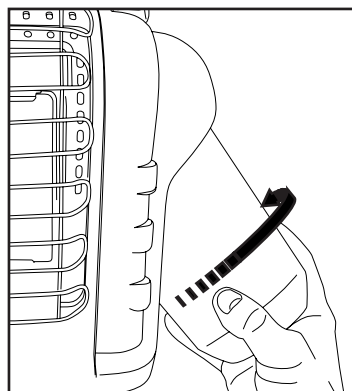

Figure 2: Attach fuel tank
2. Swivel regulator outward for easy tank installation. Screw 1 lb. disposable LP-gas supply cylinder clockwise (from bottom) into portable heater until hand-tight; see Figure 2. DO NOT use thread sealant on this connection.